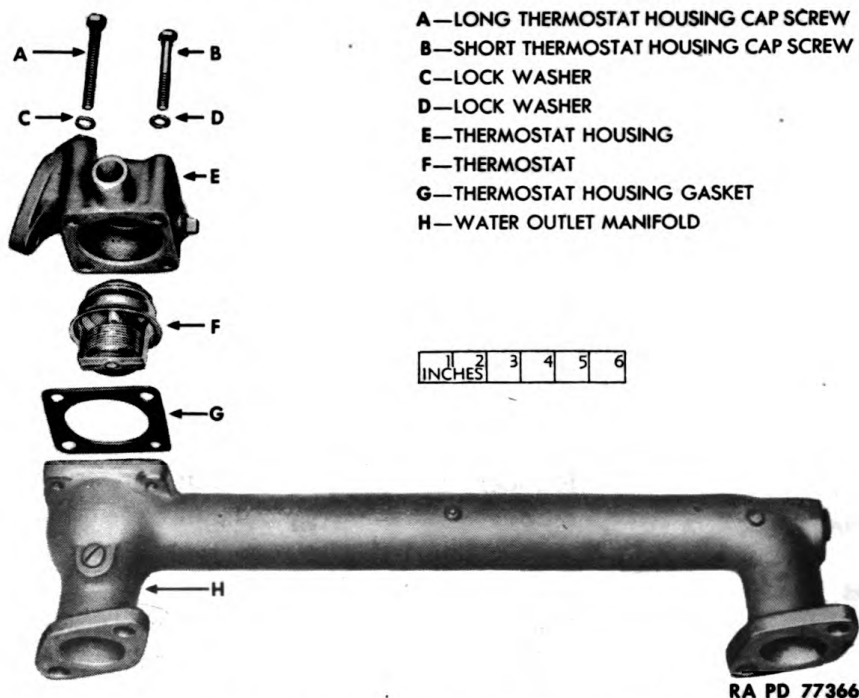

Figure 46 — Thermostat and Housing Disassembled
(1) DESCRIPTION (fig. 46). An automatic valve-type thermostat is located on the cylinder head at the front of water outlet manifold. It is constructed to control the circulation in accordance with the temperature of the cooling system. It shortens the engine warm-up
(1) **DISCONNECT BYPASS TUBE** (fig. 46). Loosen clamp securing hose to thermostat housing. Slide clamp back and pull hose free.
(2) **DISCONNECT OUTLET ELBOW** (fig. 46). Remove two hex cap screws and lock washers securing elbow to thermostat housing. Disengage elbow. Remove gasket.
(3) **DISCONNECT THERMOSTAT HOUSING FROM OUTLET MANIFOLD** (fig. 46). Remove four hex cap screws and lock washers securing thermostat housing to manifold. Remove thermostat housing, gasket, and thermostat.
(1) **CONNECT THERMOSTAT HOUSING TO WATER OUTLET MANIFOLD** (fig. 46). Use new gasket. Position thermostat in manifold. Place housing in position on thermostat. Secure housing with four screws and lock washers.
(2) **CONNECT OUTLET ELBOW** (fig. 46). Use new gasket. Fit elbow to thermostat housing. Secure with two screws and lock washers.
(3) **CONNECT BYPASS TUBE** (fig. 46). Fit top hose of tube to thermostat housing. Position clamp at end of hose. Tighten clamp.